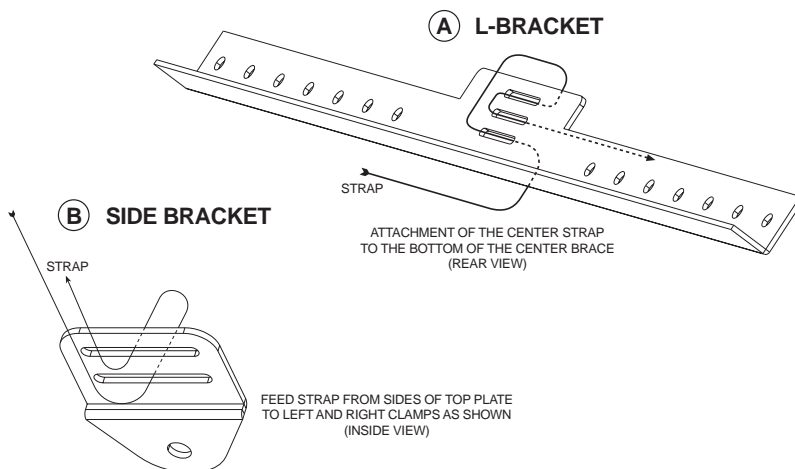

Figure 3. Strap Attachments
7. Loosely thread the 40-inch (101.6 cm) center strap through the back L-bracket. (Refer to Figure 3, Illustration A, L-Bracket)
8. Loosely thread the left 28-inch (71.12 cm) side strap through the left side strap bracket. Repeat with the right side. (Refer to Figure 3, Illustration B, Side Bracket)